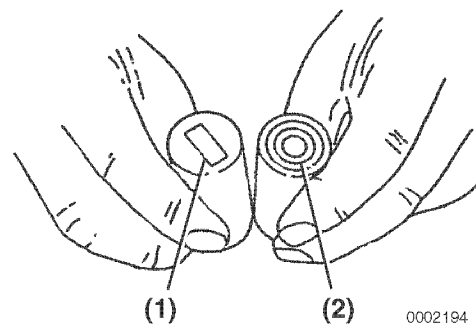

Figure 6-72
1. Inspect the tappet contact surfaces for abnormal wear (**Figure 6-72, (1)**). Normal wear will be even as shown in (**Figure 6-72, (2)**). Slight surface defects can be corrected using an oilstone.